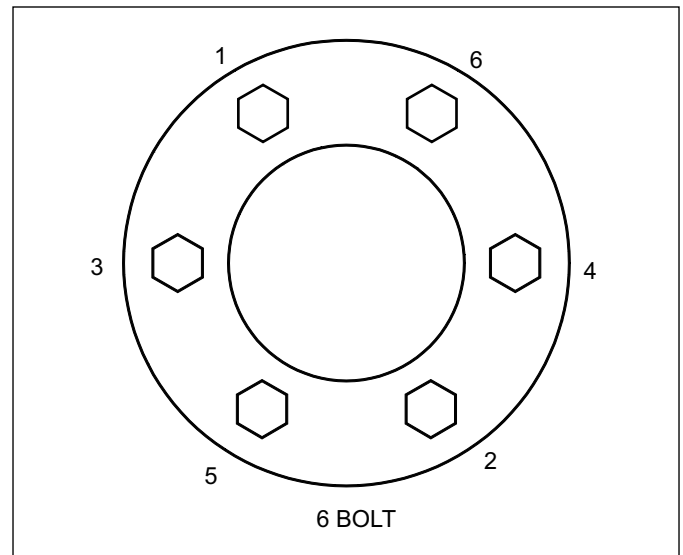

Figure 2-7: Tightening Sequence
- Install a Tire and Wheel Assembly onto each Hub with 1/2-20 x 1 Wheel Bolts and tighten Wheel Bolts to 50 Ft-Lbs using the sequence in **Fig 2-7**. Then tighten to a full torque of 80-85 Ft-Lbs.